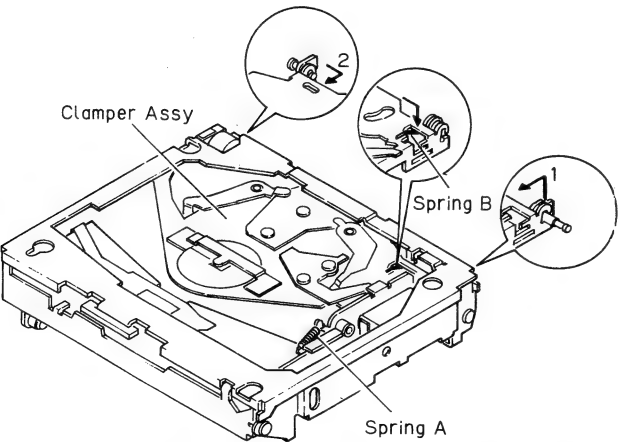

Fig. 7
- 1. Remove the spring B as indicated by the arrow. (Fig. 7)
- 2. Remove the spring A. (Fig. 7)
- 3. Remove the engagement as indicated by the arrows 1 and 2, and then remove the clamber assy. (Fig. 7)